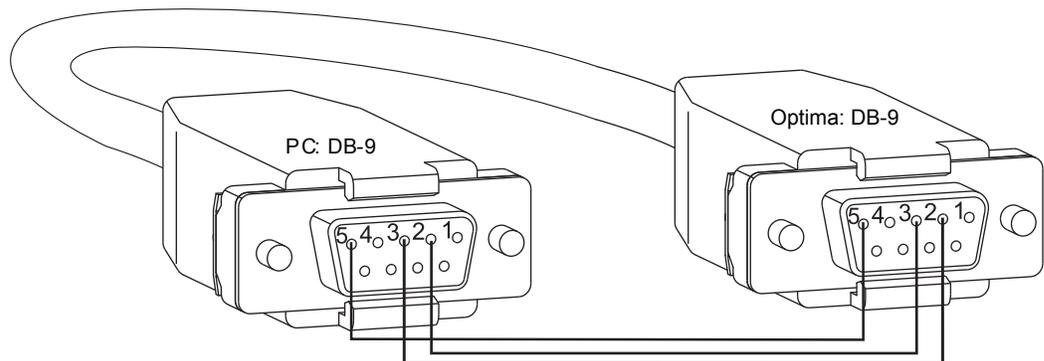

FIG. 13 RS-232 null modem pin diagram, no hardware flow control
1. Use a null modem cable that matches the pin diagram in FIG. 13 for RS-232 without hardware flow control. AMX equipment requires pins 2, 3, and 5 only.